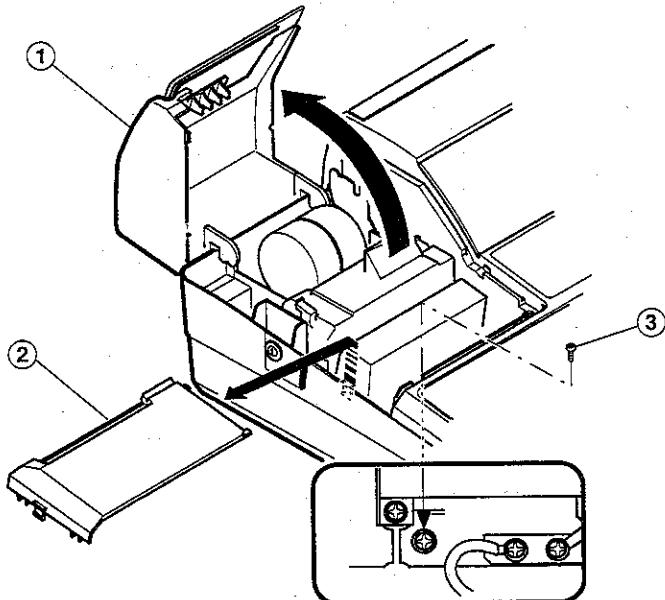

Fig. 1
- 1) Open the printer cover ① and remove the ribbon cover ② (Fig.1)
- 2) Remove the drawer holding screw ③ (Self tap screw) (Fig.1).